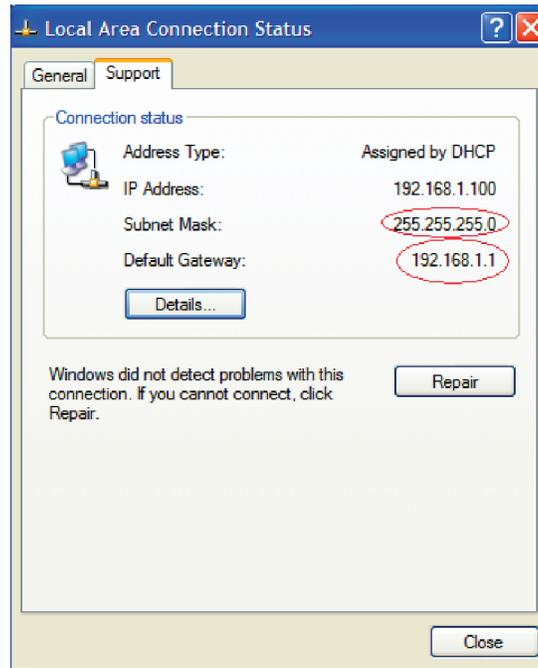

Figure 5-16 Local Area Connection Status Window
- 6) In the Local Area Connection Status window, the Support tab should display the same Default Gateway and Subnet Mask, as shown in Figure 5-16. The IP Address does not have to match, but it should begin with 192.168.1.XXX (XXX is any number between 2 and 255), thus matching the Default Gateway. Close the window.